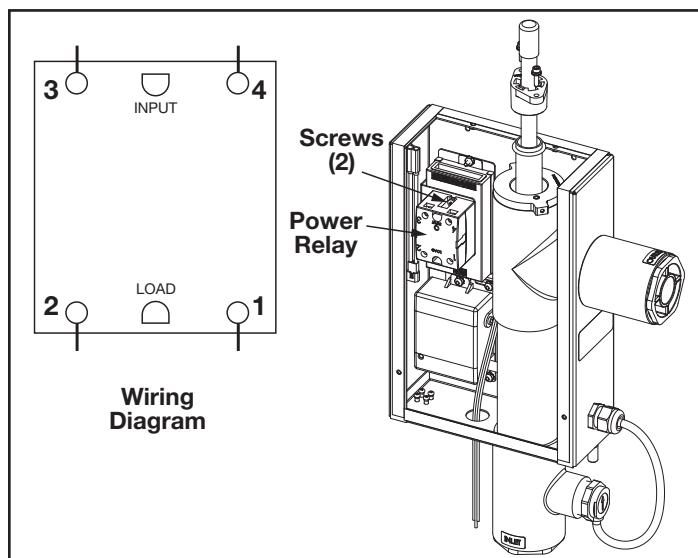

Figure 11. Jandy Offline AOP System Power Relay Removal and Wiring Diagram
3. Disconnect the wiring to the power relay at the four terminals marked 1, 2, 3 and 4. See Figure 11.